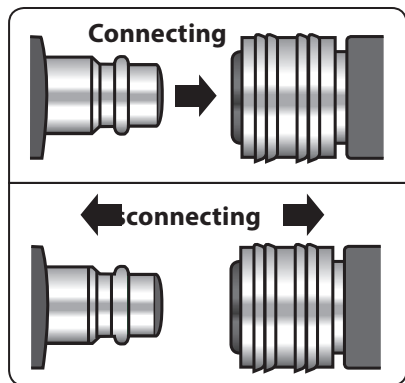

Fig. 5
7) Into the quick couplers with female air outlets, insert the male socket of the quick coupler of the pressure hose or another device, e.g. condensate separator, so that an audible clicking-in occurs and the connection is locked in place, see fig. 5. Check that there is a strong connection.